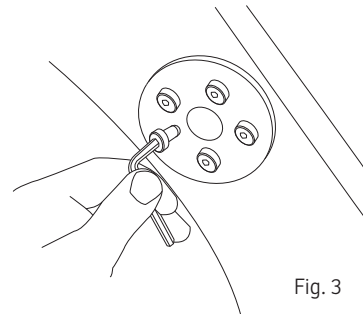

Fig. 3.
Use hex key (E) to tighten each screw securely as shown in fig. 3 to finish the ringbase.